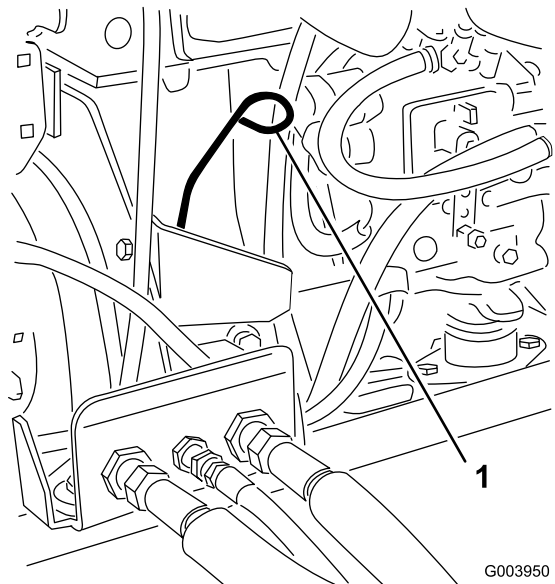

Figure 28
3. Remove the dipstick, wipe it clean, and install it (Figure 28).